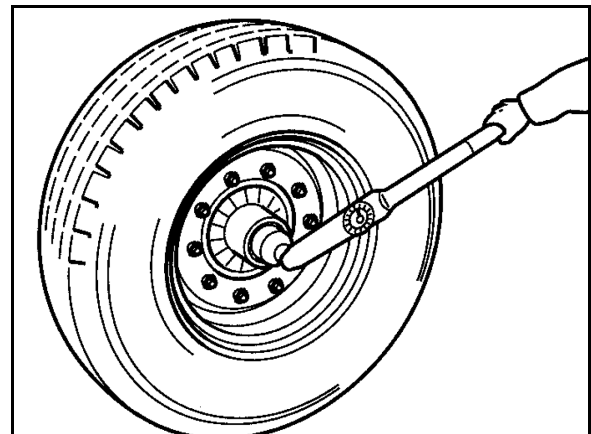

Fig. 62
1. Unscrew the two cover plates (Fig. 62/1) on the inside of the brake drum.
Dirt entering the drums may be deposited on the brake pads (Fig. 62/2) and thus die appreciably reduce brake performance.